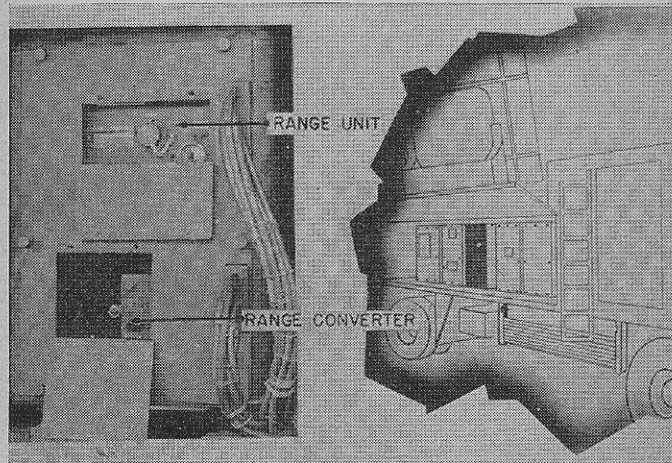

FIGURE 24.—Ranging equipment.
■ 22. **RANGING EQUIPMENT.**—The **RANGING EQUIPMENT** consists of two units mounted in a common steel box as illustrated in figure 24. The upper unit controls the movable range notch (fig. 50) on the oscilloscope screens which is positioned by means of the **RANGE HANDWHEEL** in the trailer cab or by the **AUTOMATIC CONTROLLER** depending on whether the control is set for manual or automatic. The